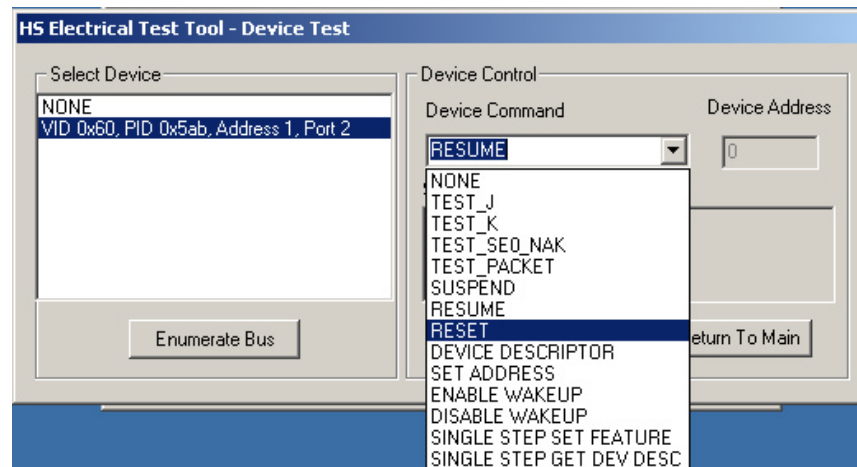

Figure 24. Device Reset
13. On the HS Electrical Test Tool - Device Test menu, select RESET from the Device Command drop down menu (Figure 24).